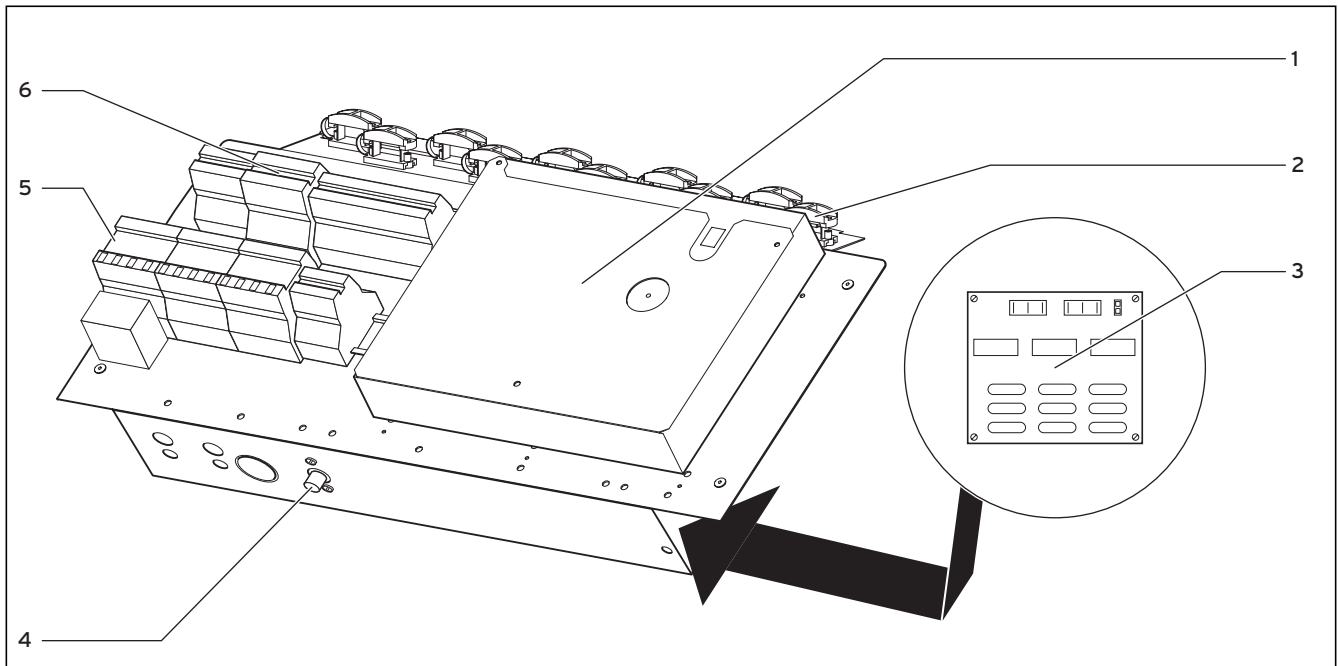

Fig. 6.1 Electrical control box
- Mix water and antifreeze to the specified concentration in an external container (e.g. plastic canister, see Fig. 6.1, Item. **66**). Every batch of the mixture must be carefully blended.
#### Key to Fig. 6.1
The well pump is connected to the 400 V three-phase supply via the well pump contactor. A motor protection switch in the heat pump (see Fig. 6.1, Item 5) protects the well pump from overload. The switch should be set to the well pump's rated current (0.8 - 2.7 A).
- Fit the start-up current limiter PCB beneath the controller PCB as described in its manual (see Fig. 6.1).